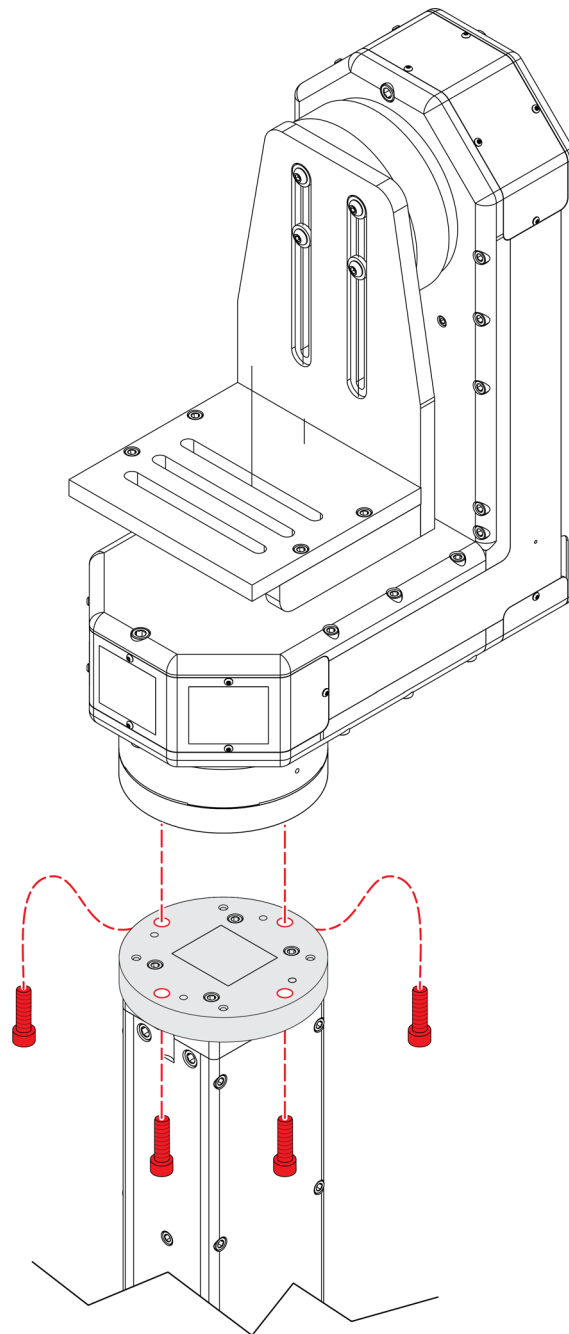

Figure 10 - Fasten the 600 Head to the Lift Column (4 screws; 5/16" hex key required)
17. Turn the pedestal's power switch to **OFF (O)**.
- b. Align the holes and use a 5/16" hex key to fasten the four screws that secure the head to the lift column (**Figure 10**).